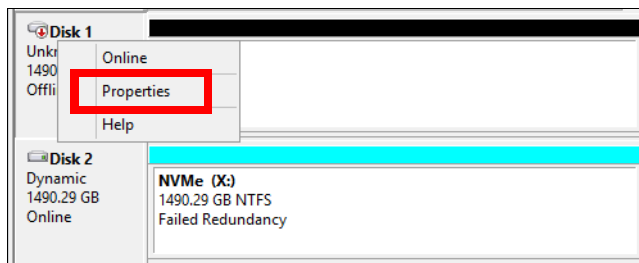

Figure 7-79 Disk Properties
- Select the failed disk (**Disk 1**) in **Disk Manager** and open the **Properties** window, as shown in Figure 7-79: